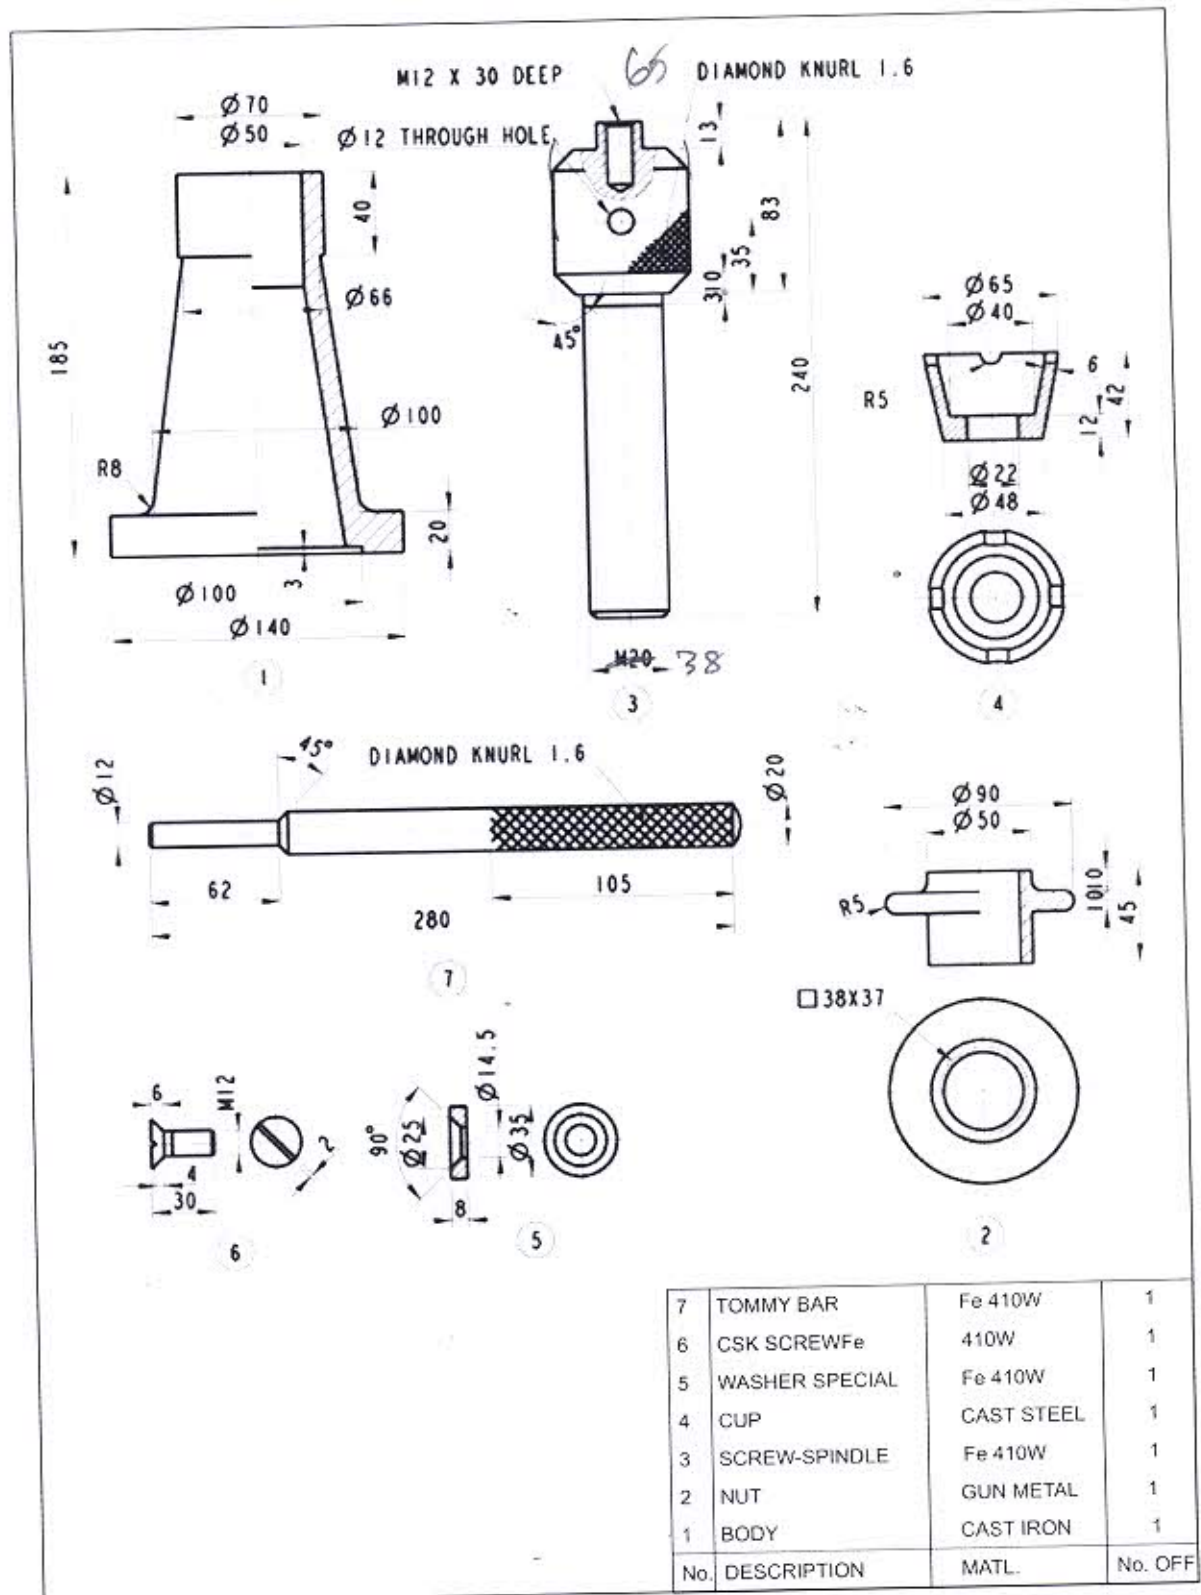

Figure 2
- Q. No. 6.** Details of "SCREW JACK" are shown in following figure 2. Assemble the parts and draw the following views of the assembly: